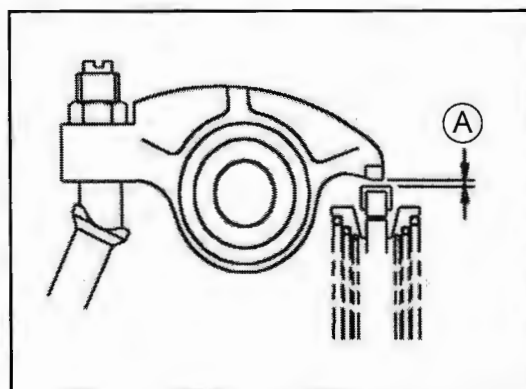

Fig. 40-3 - Engine Valve Adjustment
This job must be done by a qualified serviceman. The valve gap (A) should be (0.010 in.). (See Fig. 40-3).